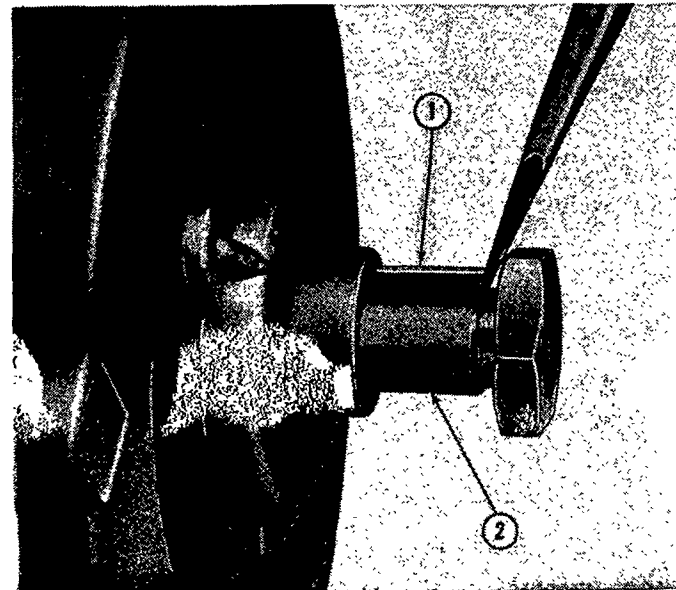

Figure 35
3. Remove the key with diagonal pliers. If the side of the key are slightly rounded from running loose place the nut back on the shaft. Use a screwdriver to pry the key from the slot as shown in Figure 35. Remove the spacer from the shaft. Refer to page 2 for inspection and repair of the pulley and fan.